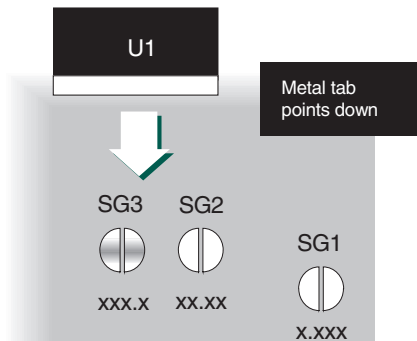

Figure2.InstallingU1
**3. Battery Operation:** Open SG4 and install U1 (LM7805CT) with its metal tab facing down as shown Figure 2. Allowable input power ranges (J1, pins 5 and 6) are as follows: